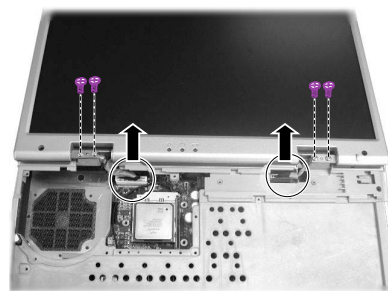

Figure 2-17 Remove cables and Screws to separate LCD
3. Disconnect the LCD cables from the system board, and remove four screws of the hinges. Now you can separate the LCD assembly from the base unit. (Figure 2-17)